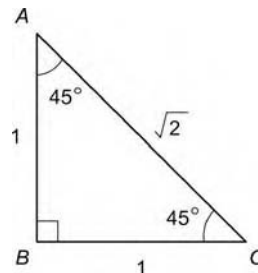

Figure 2.20 The 45°/45° right-angled triangle.
In Figure 2.20 these two sides have been given the arbitrary value of 1.0 and by Pythagoras (which you have already met) we have: $(AC)^2 = (AB)^2 + (BC)^2 = 1^2 + 1^2 = 2$; therefore, the hypotenuse side $AC = \sqrt{2}$, as shown.